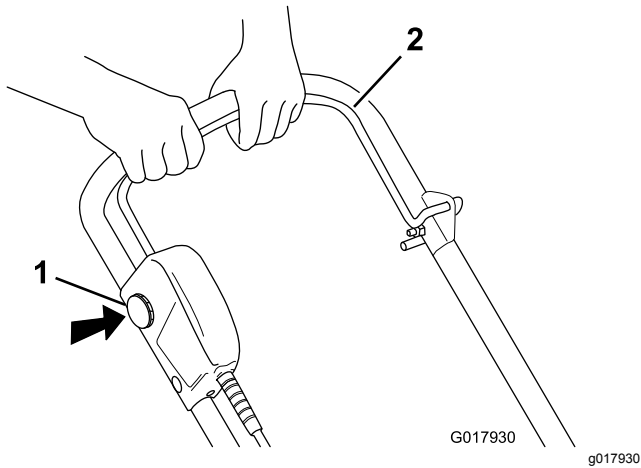

Figure 5
1. To start the motor, insert the interlock button (key), press and hold the interlock button (key), and squeeze the power control bar to the handle (Figure 5).